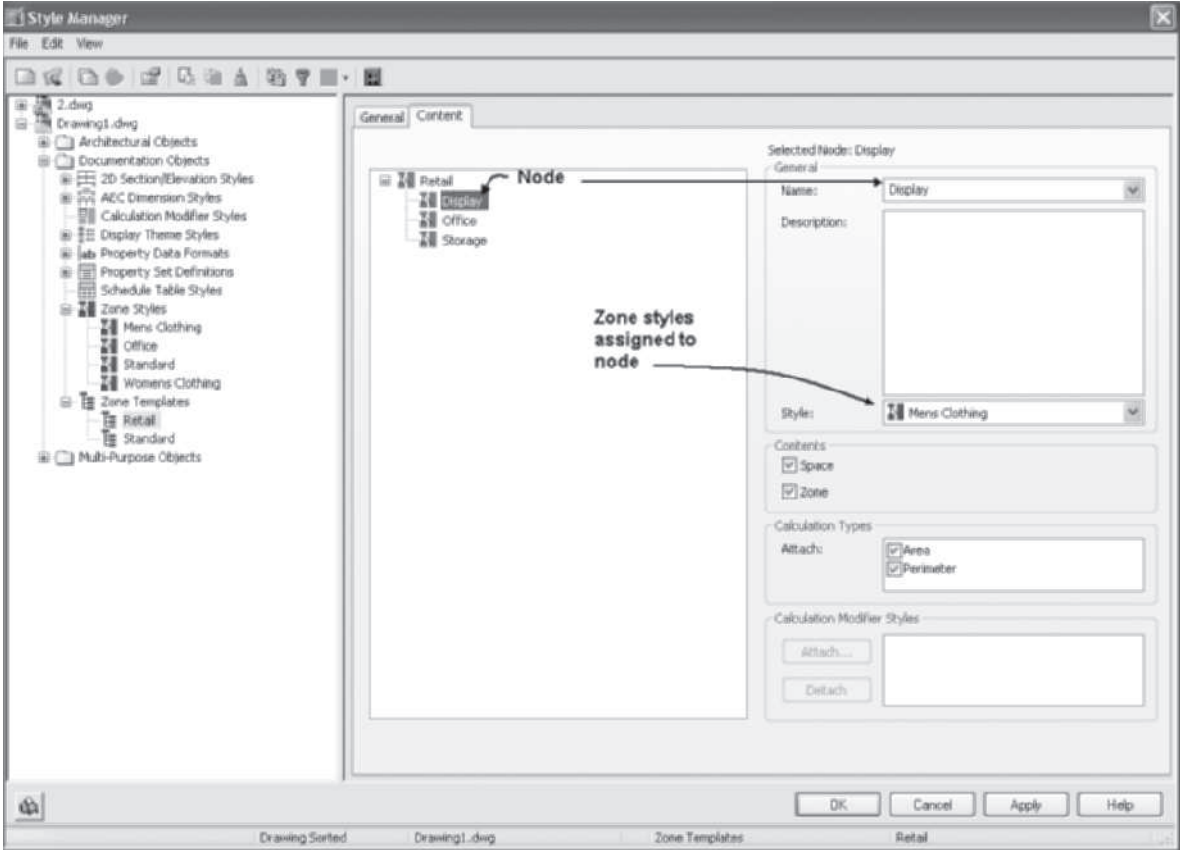

FIGURE 4.38 *Creating zone categories*
7. To create subcategories, choose a category, right-click, and choose **New**. Overtyp the name of the zone category. Choose each zone category and edit the zone style assigned to the node in the **General** section shown at the right in Figure 4.38.